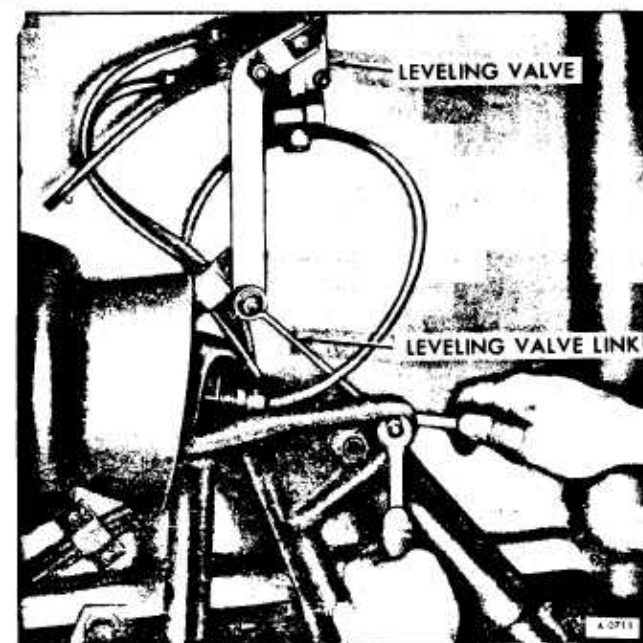

Figure 7-Disconnecting Height Control Valve Link
2. Referring to Figure 7, disconnect leveling valve link and move arm down to open exhaust valve and let air out of bellows.